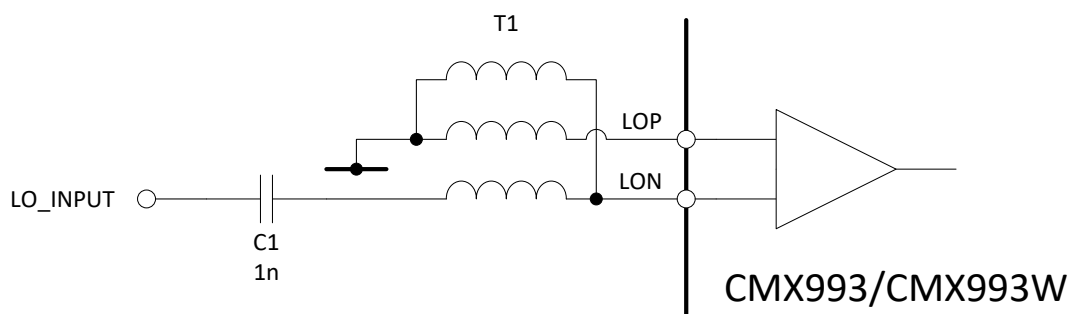

Figure 5 LO Input Configuration using a 1:1 Balun (60 MHz to 2 GHz)
1. The configuration of the 1:1 balun used at the LO input has to create a dc path to analogue GND for both LO inputs, LOP and LON as shown in Figure 5.